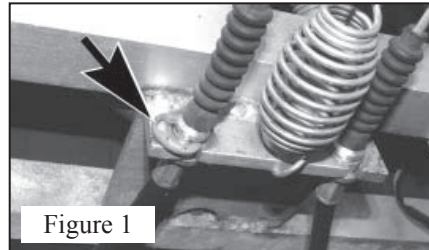

Figure 1
2. Remove the two "E" clips retaining the brake cables to the frame bracket. See figure 1.